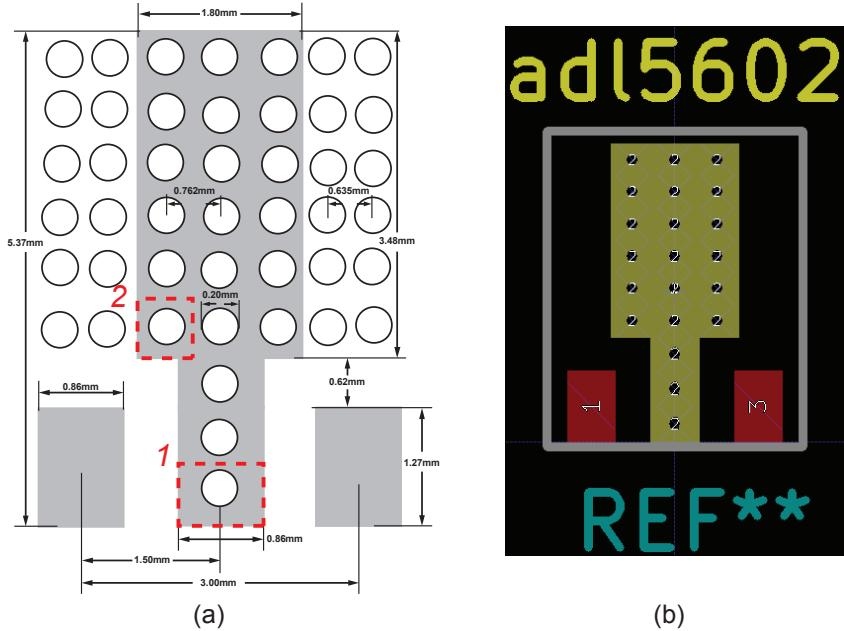

Figure 41: (a) Datasheet recommended land pattern for ADL5602 IC. Source: ADL5602 datasheet. (b) Footprint in KiCad.
The footprint of the ADL5602 IC will follow its recommended land pattern in its datasheet. It is copied in Fig. 41-a for easy reference. The large exposed pad in the center and the many vias connects serve two purposes: 1) providing a low-impedance electrical path to the ground plane underneath; 2) providing a low thermal impedance path so that the heat generated in the IC could be well dissipated.
pattern consists of two unit cell types, both labeled in Fig. 41. Pad type 1 has a width of 0.86 mm and a height of $(0.62 + 1.27)/3 = 0.63$ mm. Pad type 2 has a width of 0.762 mm and a height of $(5.37 - 0.62 - 1.27)/6 = 0.58$ mm. The drill diameter for both pad types is 0.20 mm.
5. The final footprint is shown in Fig. 41-b. A courtyard outline has also been added.